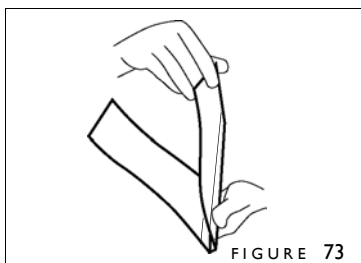

FIGURE 73
1. Your cover has a total of four scores in the spine region. Fold your cover at the two middle scores (figure 73). **These are the scores that are the same distance apart as the thickness of your book block.**